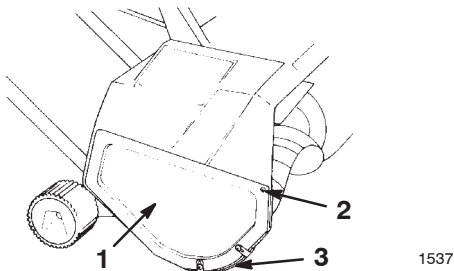

Figure 11
1. Remove the 3 screws that secure the right side cover and the skid to the snowthrower frame (Fig. 11).